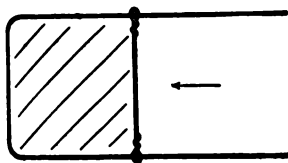

FIG. 11.—The rider is drawn forward.
22. Surface Tension.—The cohesion of liquids is also indicated by the tendency of films to assume the smallest possible surface. Soap bubble films show this readily. Thus Fig. 10 *a* represents a circular wire form holding a film with a thread having a loop in it. The tension of the film is shown in Fig. 10 *b* by the circular form of the loop after the film within it has been pierced by a hot wire. Fig. 11 shows a rectangular wire form with a